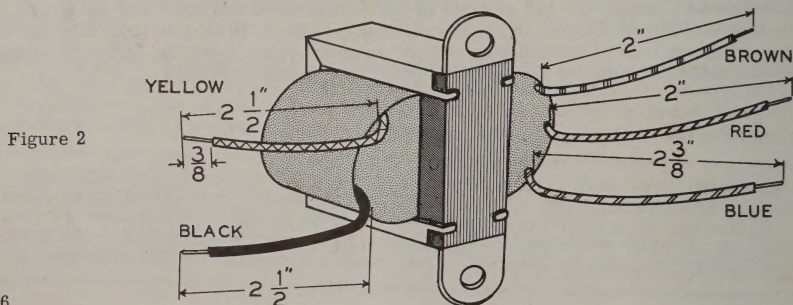

Figure 2
- (X) Refer to Figure 2 and trim the black and yellow leads of the output transformer (#51-46) to 2 1/2" long. Trim the red and brown leads to 2" long and the blue to 2 3/8" long. Now trim the insulation 3/8" off the end of each lead. Twist the strands tightly together and tin lightly (apply a small amount of solder using a hot iron). Set the transformer aside for now.